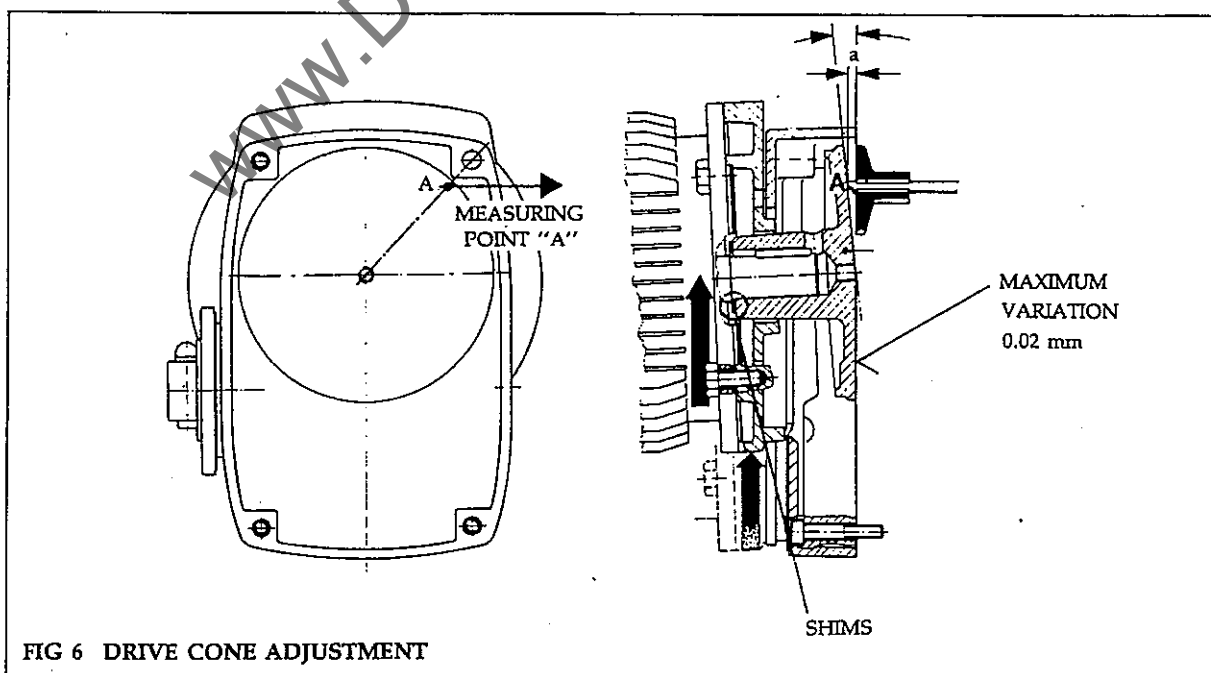

FIG 6 DRIVE CONE ADJUSTMENT
**Drive cone adjustment: (Fig 6)**